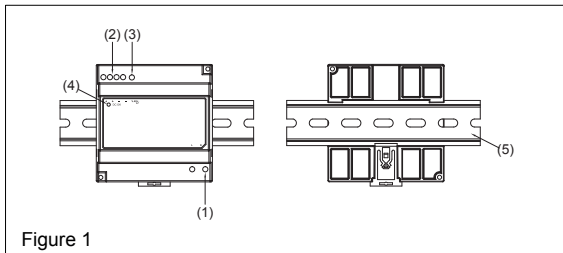

Figure 1
## 2. Device description (Fig. 1)
### 5.1. Input connection (Fig. 1 (1), Fig. 5)
Use L and N connections of input terminal connector (see Fig. 1 (1)) to establish the 100-240 VAC connection. The unit is protected with internal fuse (not replaceable) at L pin and it has been tested and approved on 20A (UL) and 16A (IEC) branch circuits without additional protection device. An external protection device is only required if the supplying branch has an ampacity greater than above. Thus, if an external protective device is necessary, or, utilized, a minimum value of 16A B- or 8A C- characteristic breaker should be used.
### 5.2. Output connection (Fig. 1 (2))
The output voltage can be adjusted from 12 to 14VDC on the potentiometer. The green LED DC OK displays correct function of the output (Fig. 1 (4)). The device has a short circuit and overload protection and an over voltage protection limited to < 19VDC